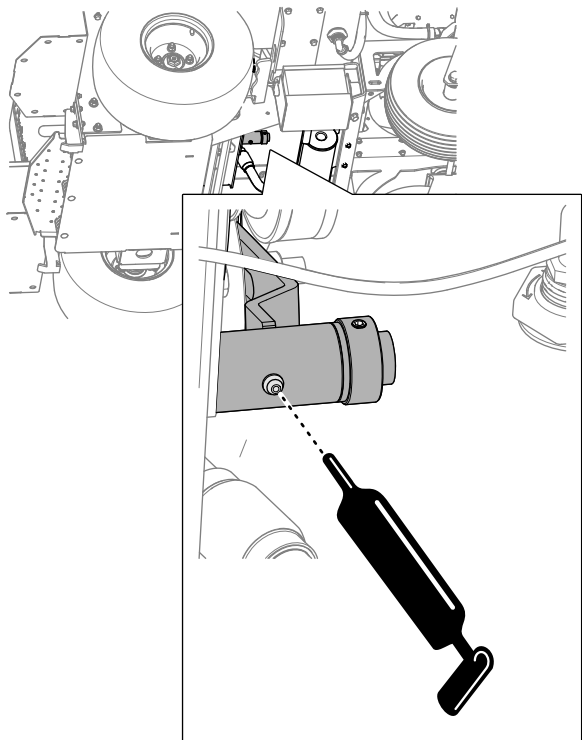

Figure 66
2. At the bottom of the machine, wipe the grease fittings at belt tensioner pivot clean with a rag (Figure 66).
3. Connect a grease gun to the fittings (Figure 66).